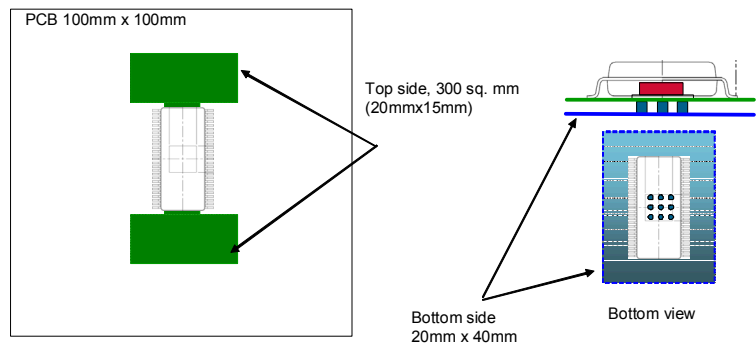

Figure 9. PCB with Top and Bottom Layer Dissipation Area (Dual Layer)
- This parameter was measured according to Figure 9.